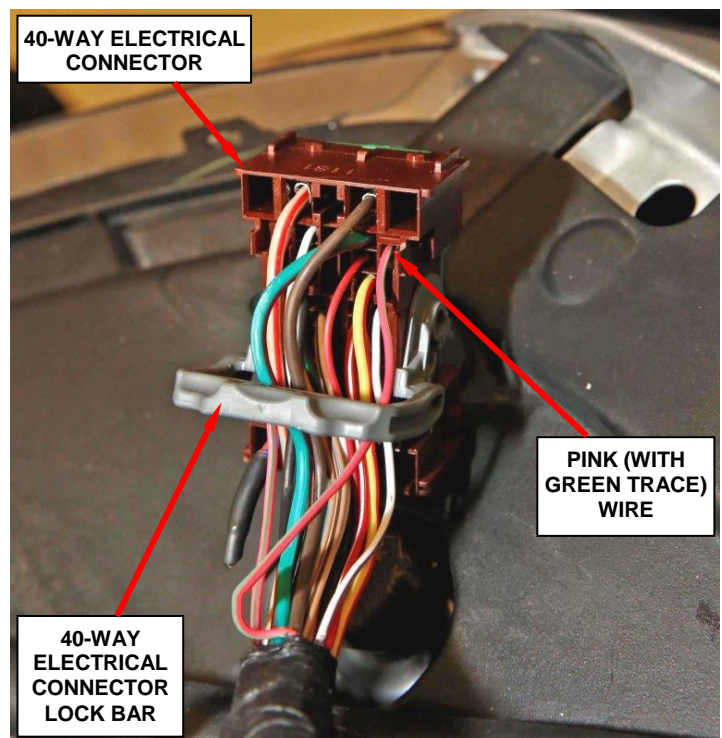

Figure 17 – Pink (with Green Tracer) Wire Location
20. Locate the pink (with green trace) wire in cavity 38 of the 40-way electrical connector (Figure 17).